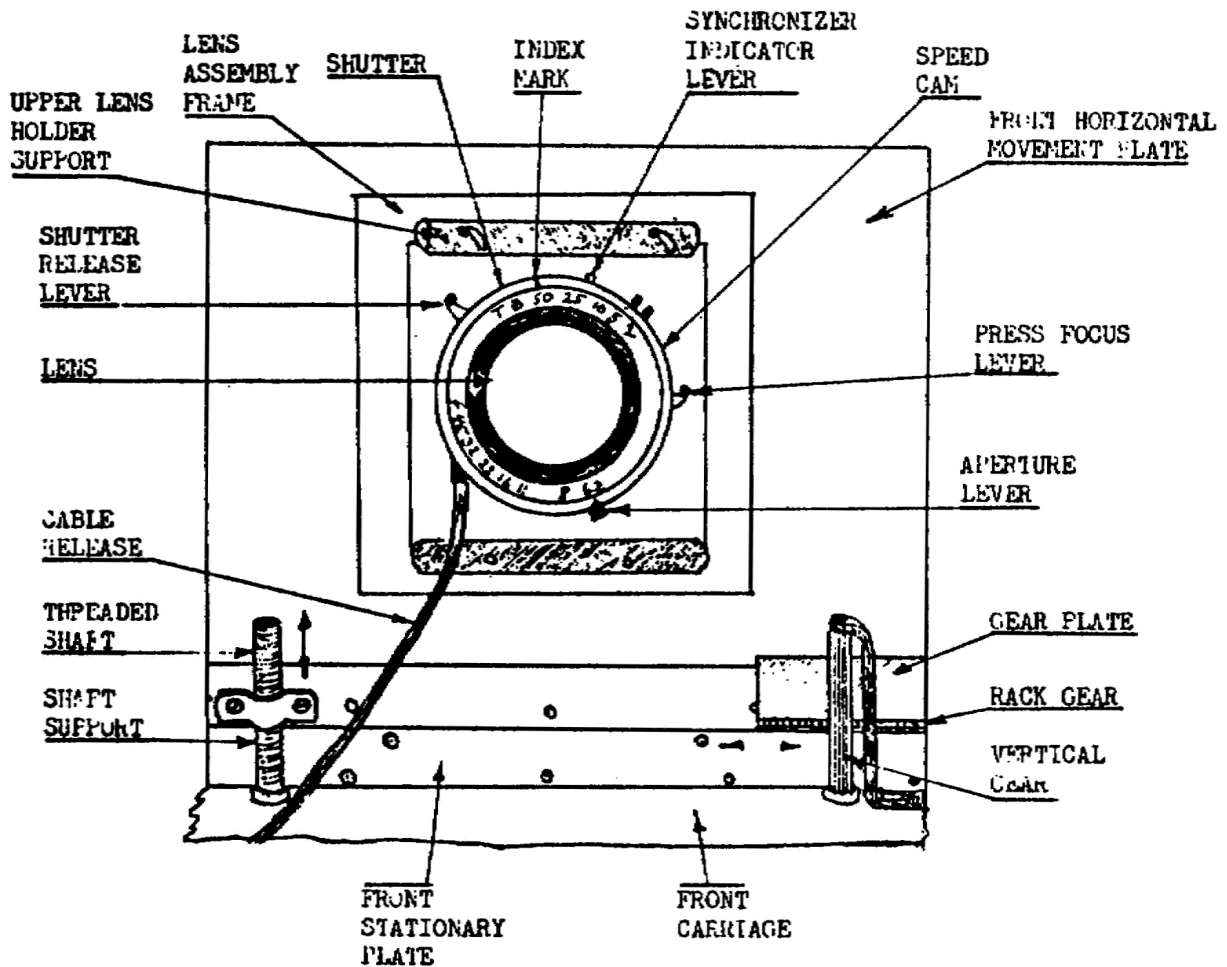

FIGURE 13. Lens assembly mounted in front focus
- a. Remove the lens cap from the front of the lens (figure 13).
- b. Set the aperture lever (figure 13) to f/6.3. This setting will admit the maximum amount of light and produce the minimum depth of field for sharp focusing.
i. Gently lift the press focus lever (figure 13). The shutter will close.
25. (Ref. figure 13) In order to open the lens to focus the camera, which of the following levers must be activated? (select best answer)